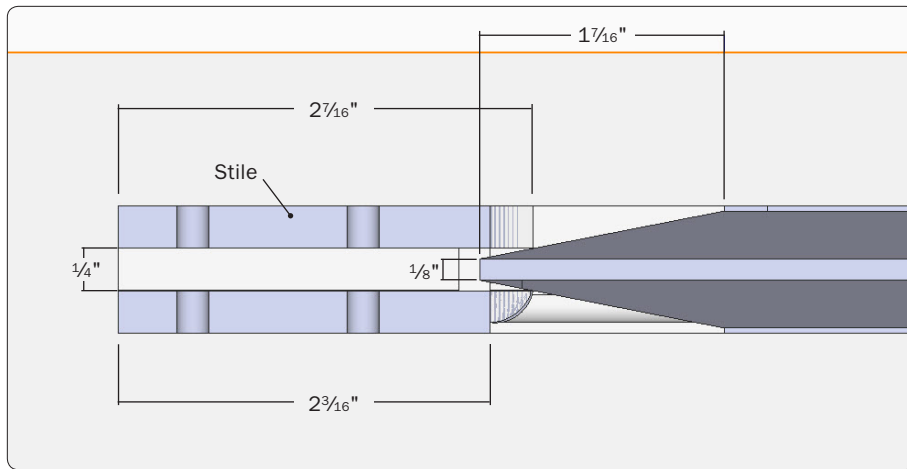

Figure 73. Cross section, top view, of the left stile.
Step 5 The raised-panel door is the centerpiece of this SketchUp exercise. Figures 73–76 show dimensioned views of the joints, the door panel profile, and the molding profile on the stiles and rails. Print out those views to refer to as needed. Note the